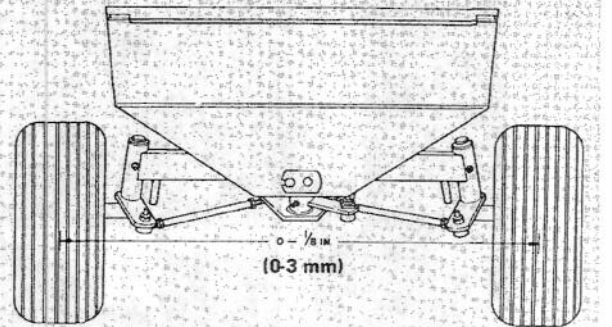

Figure 49
2. Loosen the jam nuts on both tie rods (Fig. 49). Adjust both tie rods until center-to-center distance (Fig. 49) at front of rear wheel is 1/8 of an inch (3 mm) less than that at back of rear wheel.
3. When toe-in of rear wheels is set correctly, tighten jam nuts against tie rods (Fig. 49).